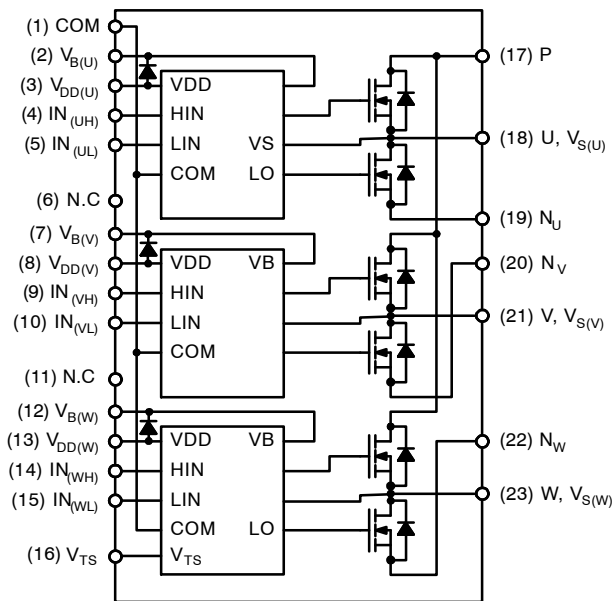

Figure 1. Pin Configuration and Internal Block Diagram (Bottom View)
13. About pin position, refer to Figure 1.